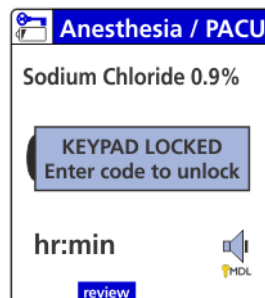

Figure 131. Keypad Lock Popup Message.
- » While the Pump is infusing, enter the keypad lock code 429. A popup message appears briefly indicating that the keypad has been locked. See Figure 131.
Pressing any key while the keypad is locked causes the same popup message to be displayed. See Figure 131.